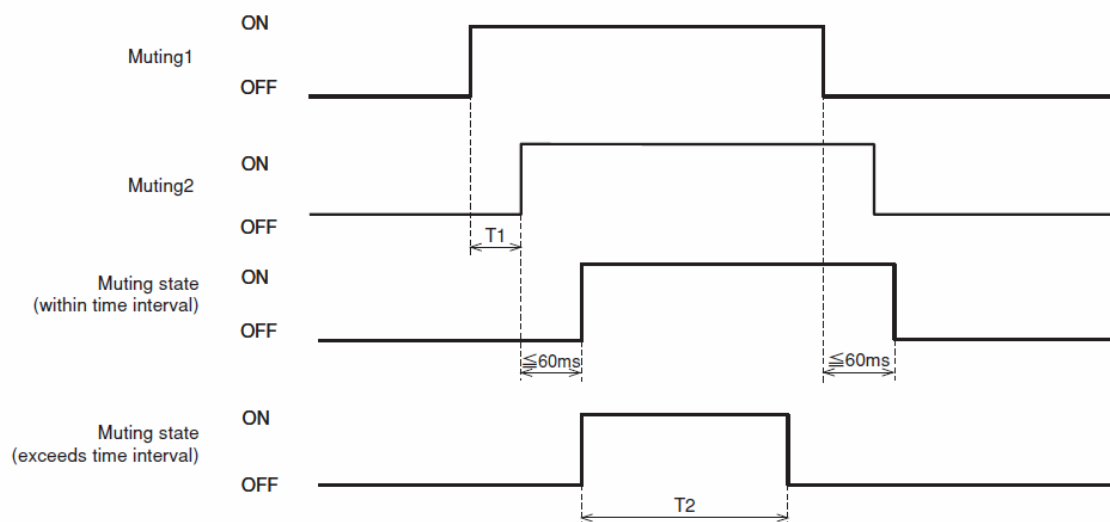

Figure 3-20 Muting sequence
- b) The two independent hard wired muting input signals are switched to ON state in the predefined sequence within the pre-set time interval. However, the switching interval between two input signals should not be 0 (Refer to figure 3-20).
- When the predefined (preset) maximum muting time T2 exceeds (1 minute and above) (Figure 3-20).
Figure 3-20 shows the muting sequence.